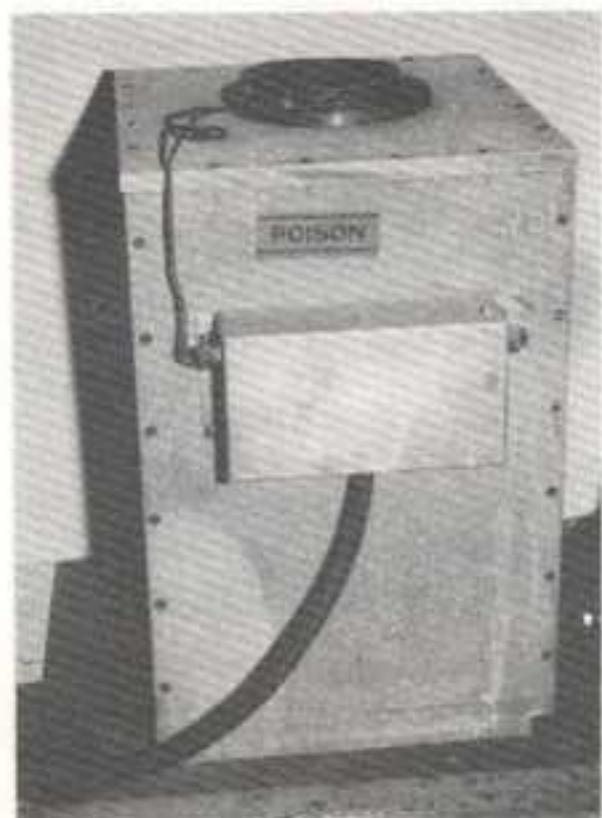
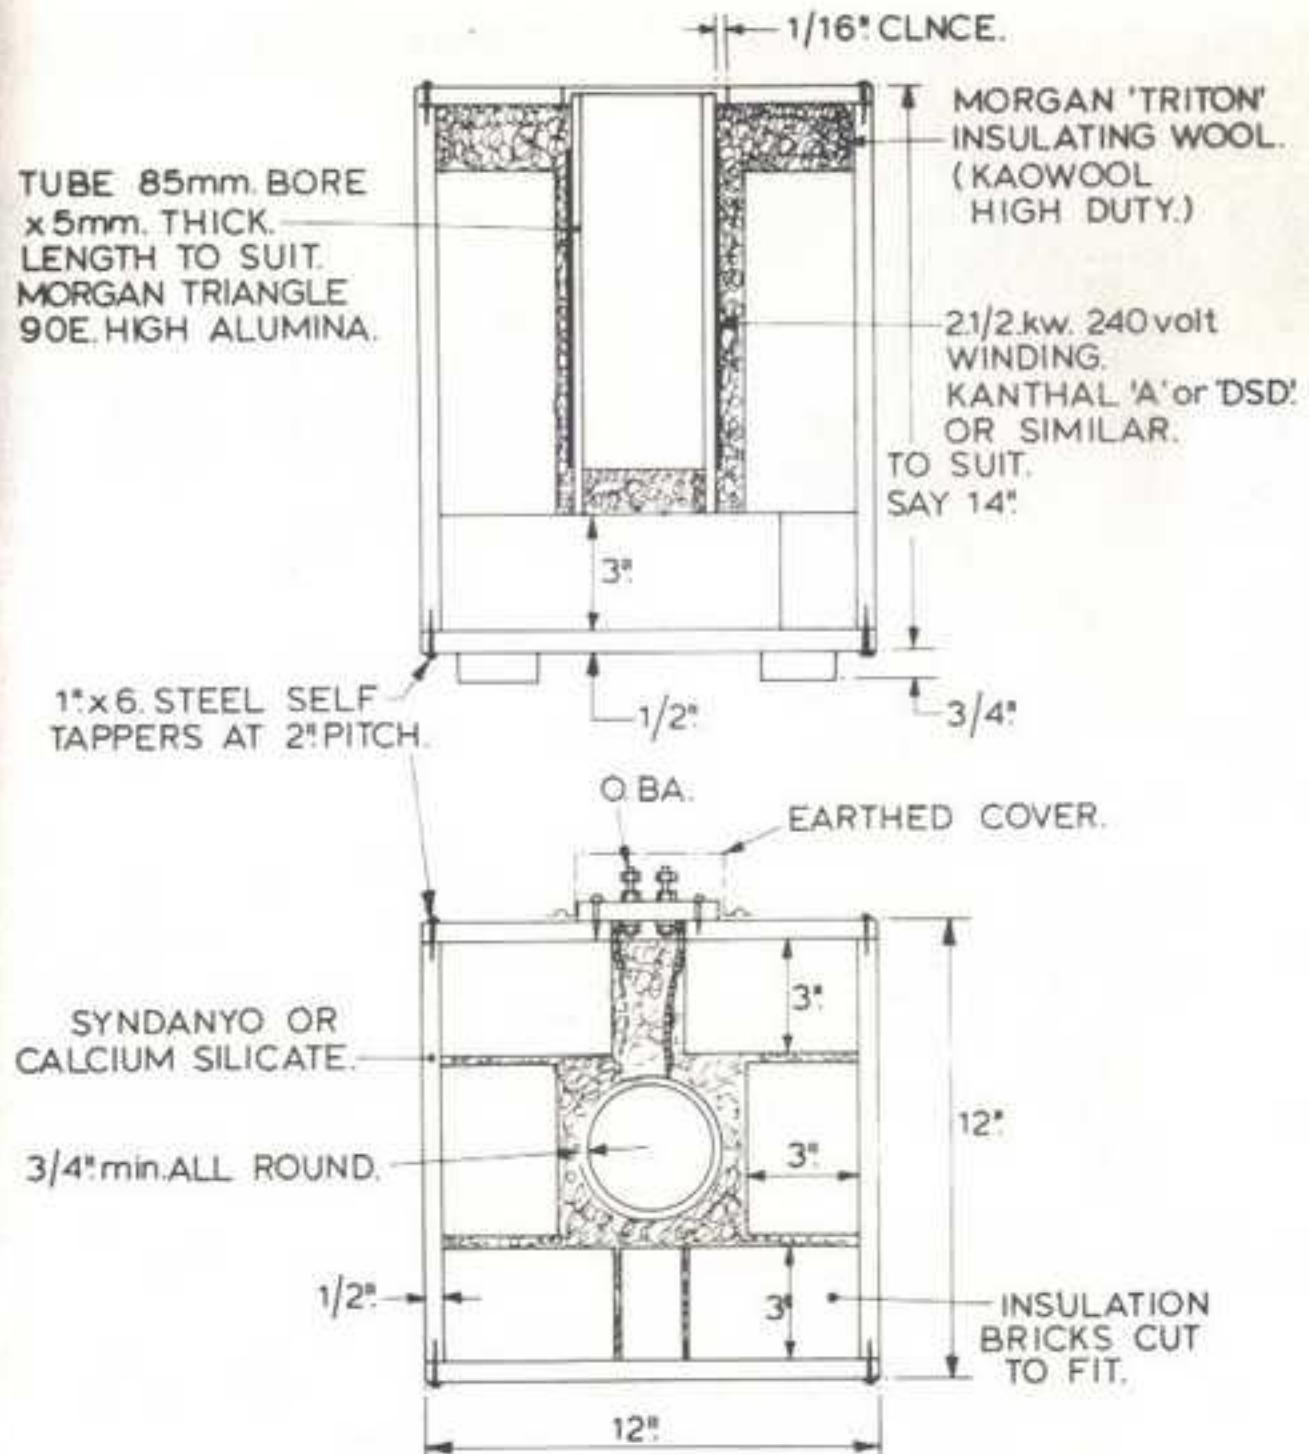

Fig. 57 A pot furnace suitable for temperatures up to 950°C.
Fig. 58 Outline details of a furnace similar to Fig 57. Detail changes have been made to reduce heat losses.
3½ in. bore Morgan 90E High Alumina wound with a Kanthal element for 240 volts. If buying a wound tube it is important to specify the power input – 2½ to 2¾ KW in this case – the applied voltage, and the operating temperature of the ceramic tube. This will be higher than that in the salt pot itself, so that a sketch of the arrangement, or a copy of Fig. 58, should be sent with the enquiry. The outer casing is of ½ in. Syndanyo, though today one of the Calcium Silicate substitutes from Cape Insulation Ltd would be used. The immediate insulation material round the element is "Triton" Kaowool ceramic fibre, supplied by Morgan Ceramic Fibres Ltd, Bromborough, Wirral L62 3PH. The standard grade is good for 1250°C, but I suggest the "High Duty" rated at 1400°C. This is packaged into the space between the element itself and the heat insulating bricks – which are cut roughly to leave about 1 inch gap between their surface and that of the element. The bottom of the tube is packed with the wool also, but this must not lie above the first coil of the element.
**High Temperature Salt Furnace.** Fig. 57 shows my 2½ in. x 10 in. neutral salt furnace for temperatures up to about 950°C, rated at just under 2.8 KW. This is, perhaps, rather larger than might be needed, and a 2½ in. x 8 in. would do for most applications, but it was originally made (not by me) as a small laboratory furnace. Fig. 58 is the drawing. The tube is